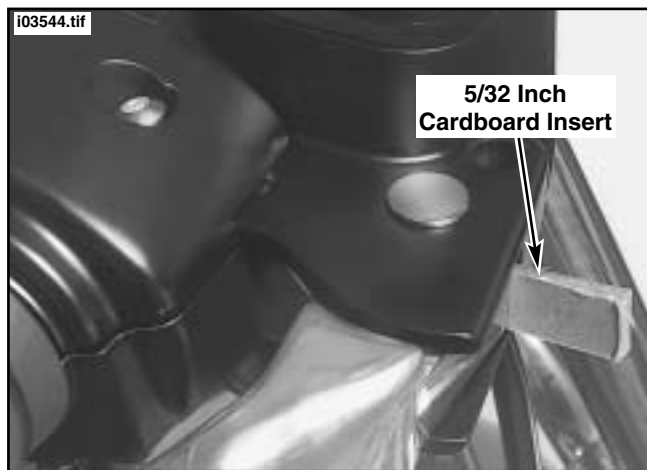

Figure 4. Install Cardboard Insert
11. See Figure 4. Place a 5/32 inch cardboard insert between the brake lever and lever bracket.
Refer to Figure 4. Do not remove the 5/32 inch cardboard insert wedged between the brake lever and lever bracket. Removal will result in damage to the rubber boot and plunger of the Front Stoplight Switch during installation of the master cylinder assembly.